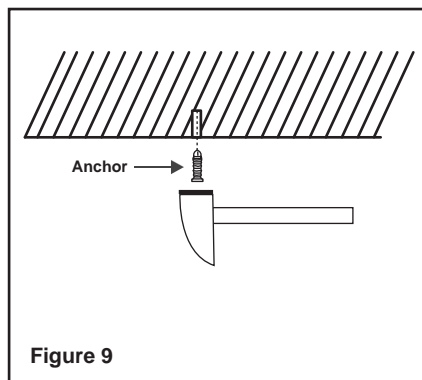

Figure 9
4. Line up the drywall anchors with the marks on the ceiling and use a hammer to tap the anchor approximately 1/2" into the ceiling. Stop just before the threaded portion of the anchor enters the ceiling and begin to screw in the anchors. The use of a drill may be necessary to facilitate the installation of the anchors. (Fig. 9)